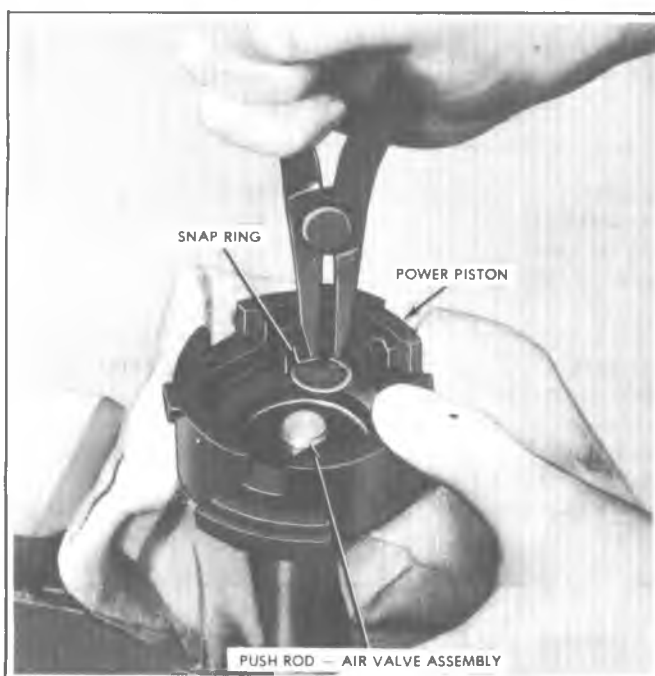

Fig. 5-11C--Removing Power Piston Snap Ring
10. Use Snap Ring Pliers J-4880 to remove snap ring on air valve (fig. 5-11C).